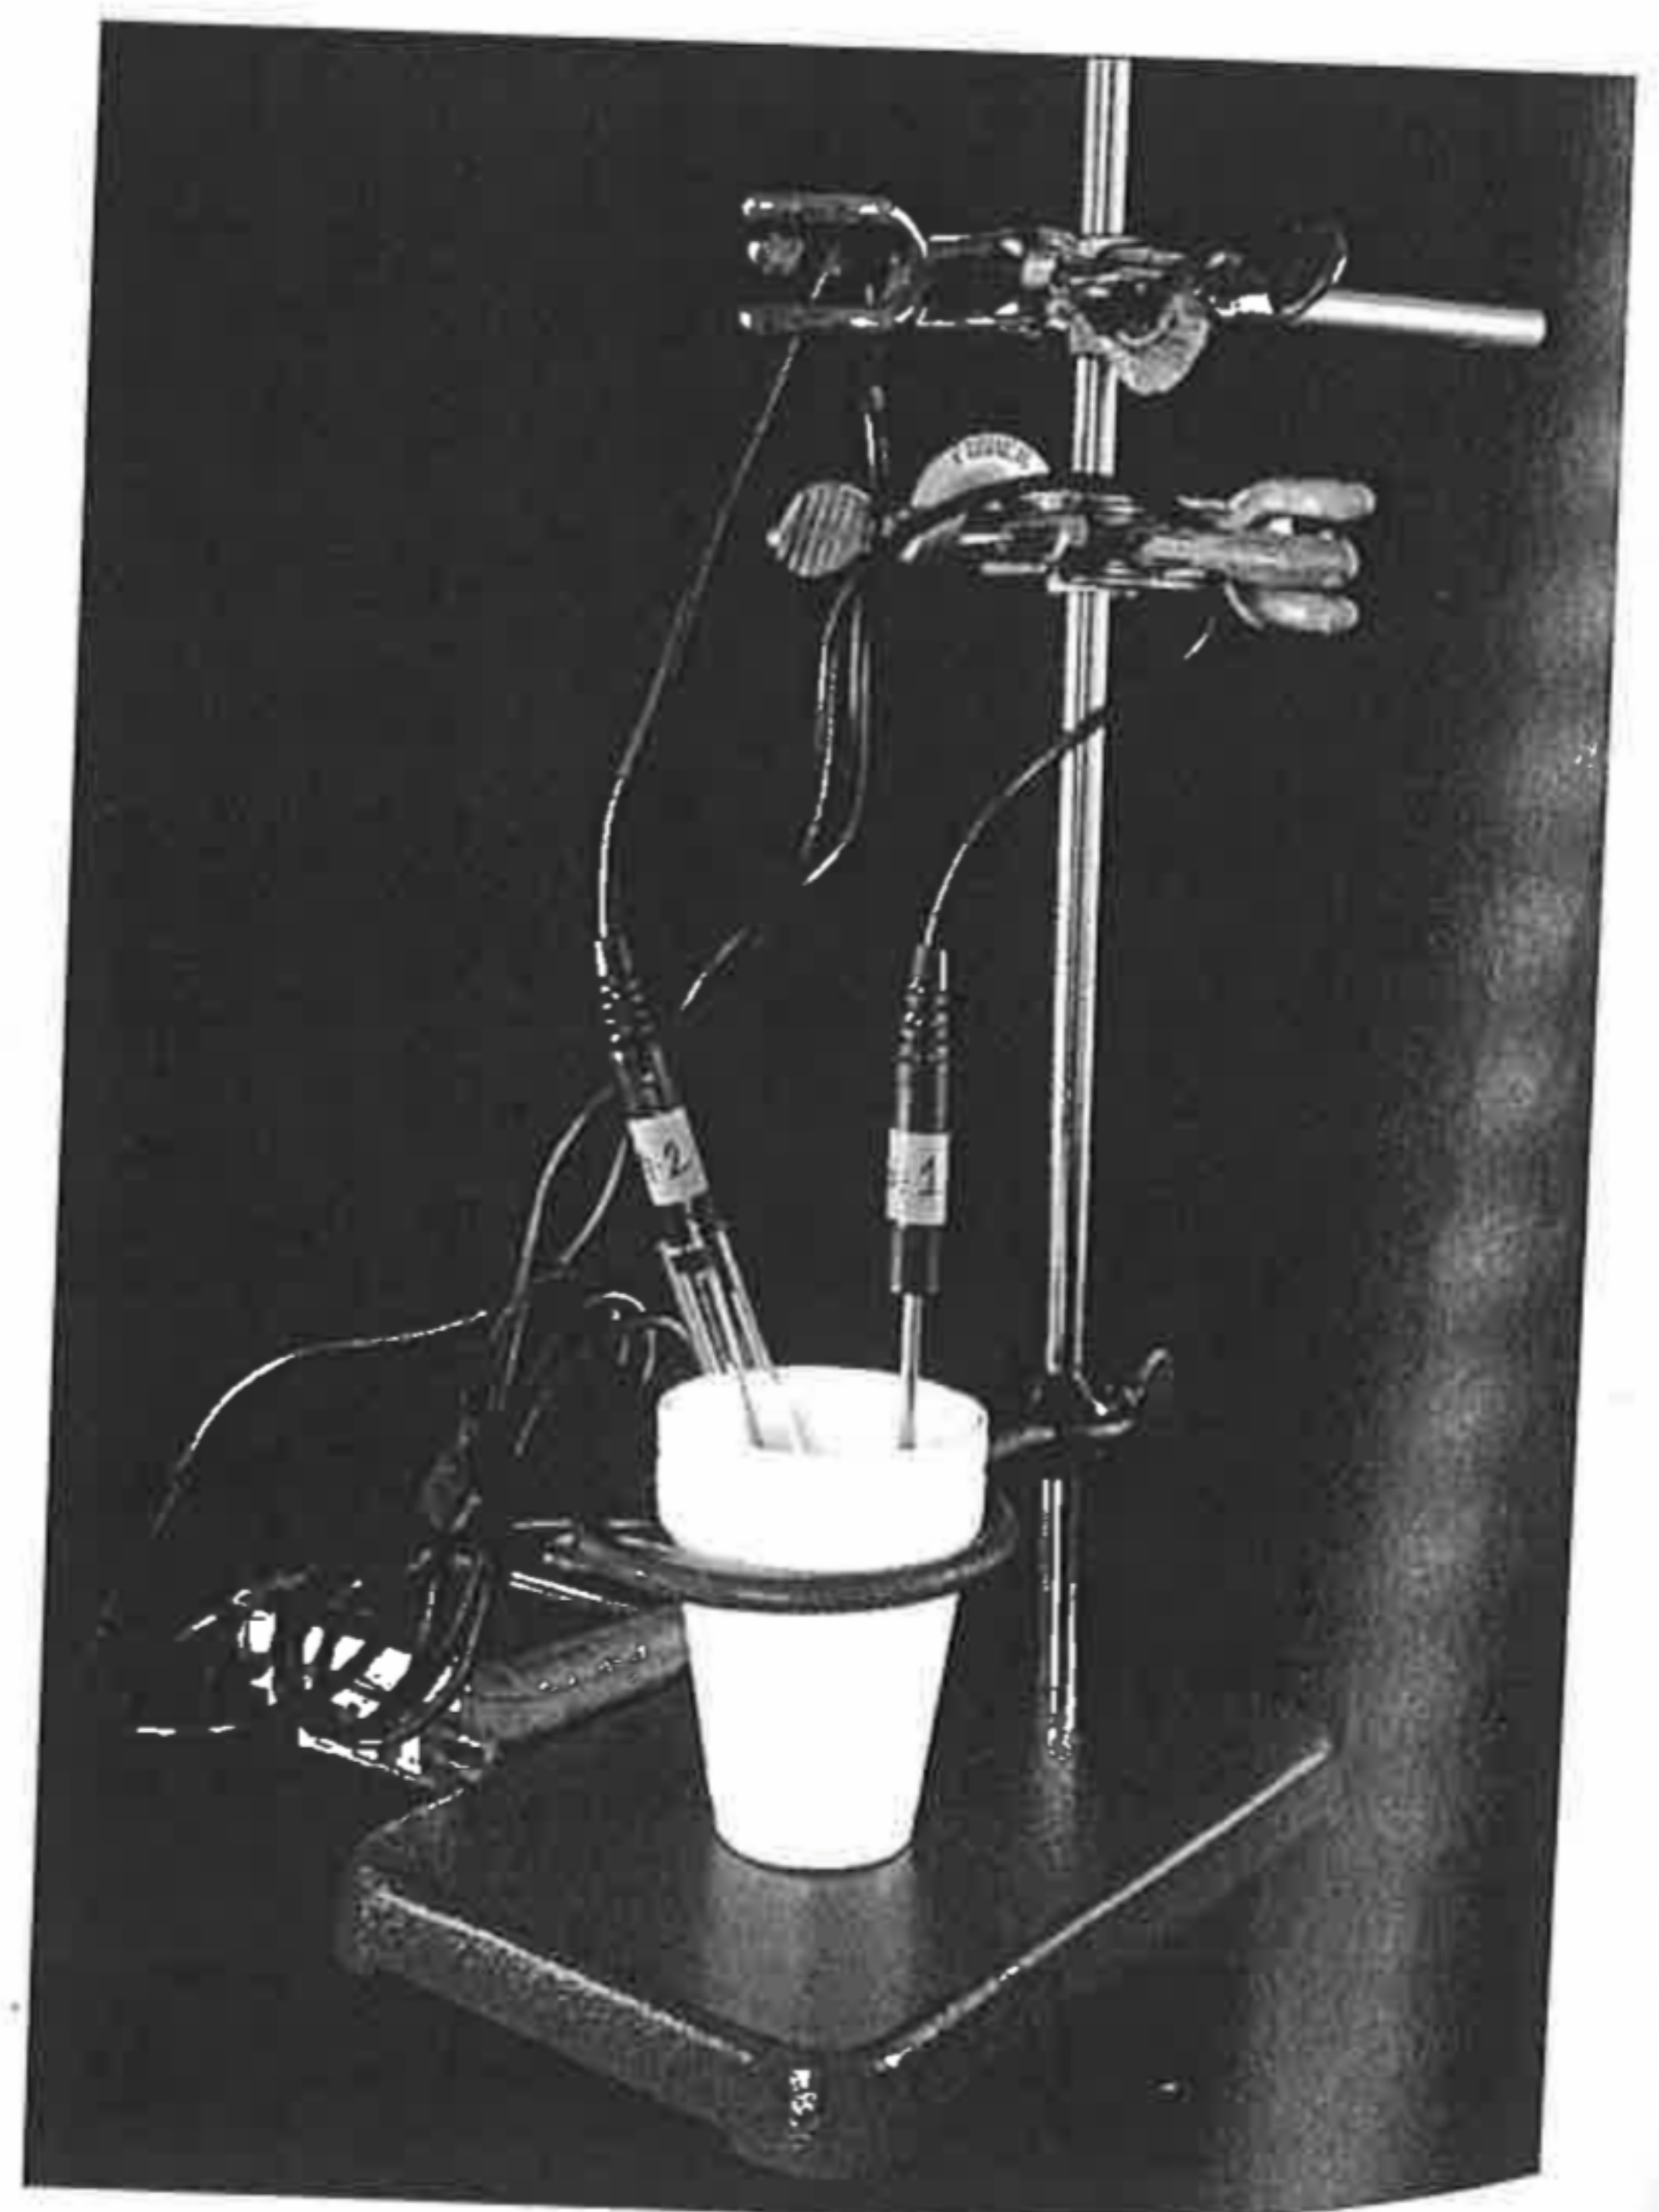

FIGURE 14.8 Finalized experimental apparatus.
- Place the cooling bath into the iron ring. Adjust the height of the ring as needed so the Styrofoam cups are resting on the counter, but are protected from being accidentally knocked over (Fig. 14.8).